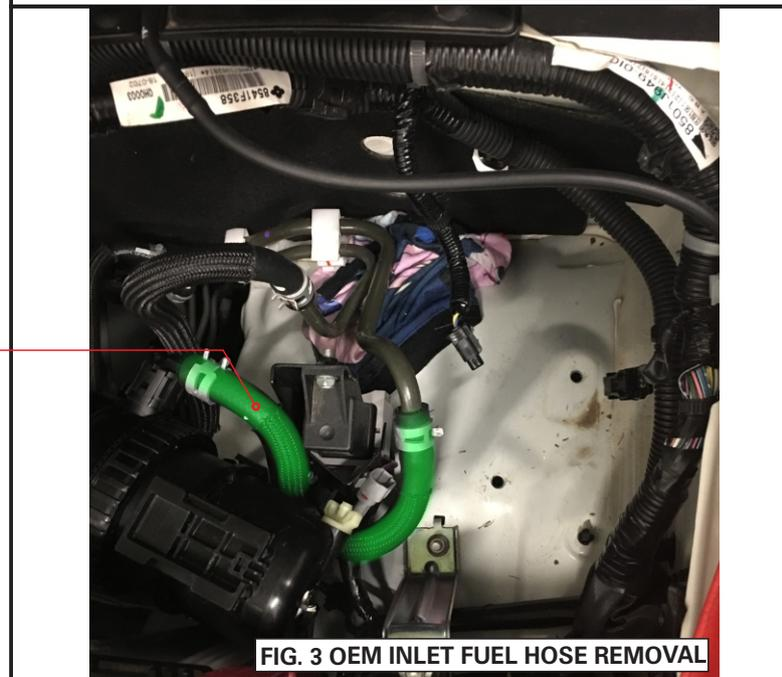

FIG. 3 OEM INLET FUEL HOSE REMOVAL
6. Remove the OEM fuel supply hose & hose clamps (highlighted green in Fig. 3). Have a rag ready as some fuel will spill from the hose and pipe.
3. Apply the supplied thread sealant to the thread of the blanking plugs and the quick connectors. Install them as per Fig. 3, ensuring they are tight.
<p>FIG. 3 FUEL WATER SEPARATOR HEAD PREPARATION</p>	<p>FIG. 4 FUEL HOSE PREPARATION</p>